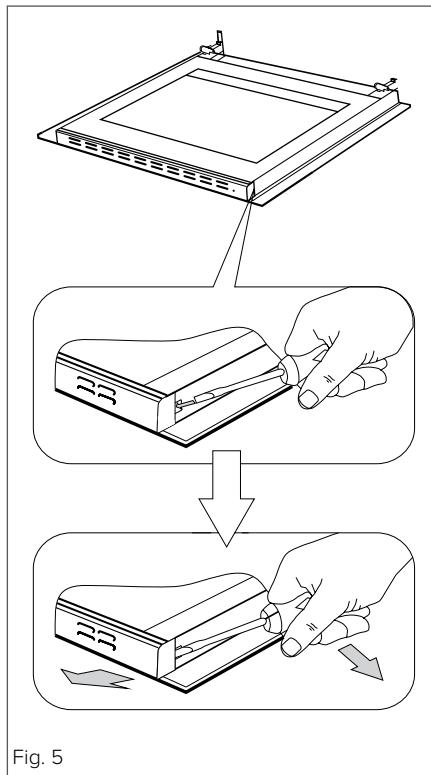

Fig. 5
- Use a flathead screwdriver or similar to unhook the door slat, as shown in fig. 5